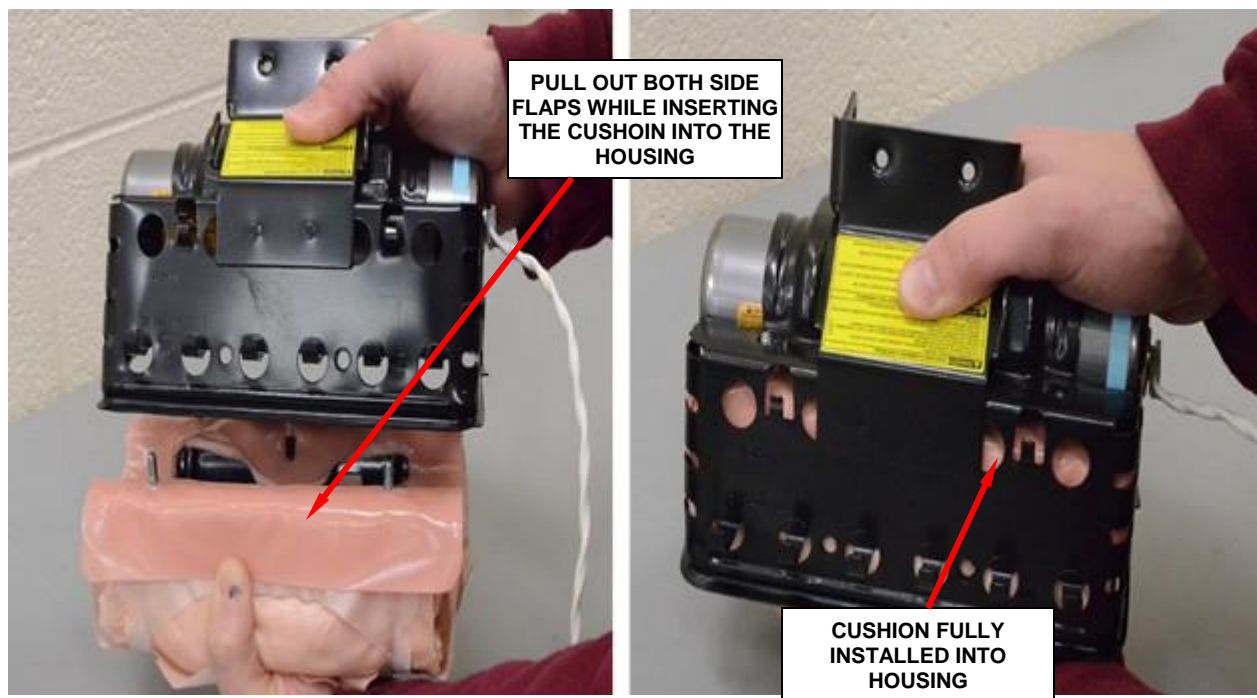

Figure 42 - Side Flaps Must Be Held Out
k. Insert the cushion, pulling out both side flaps (Figure 42).